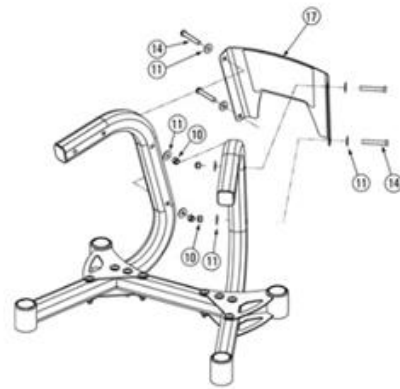

Fig. 7
1. Attach the towel bar (7) to the left dumbbell platform (5) and the right dumbbell platform (6) using hardware shown in figure 7. Hand tighten screws in a cross pattern, to ensure even fit.